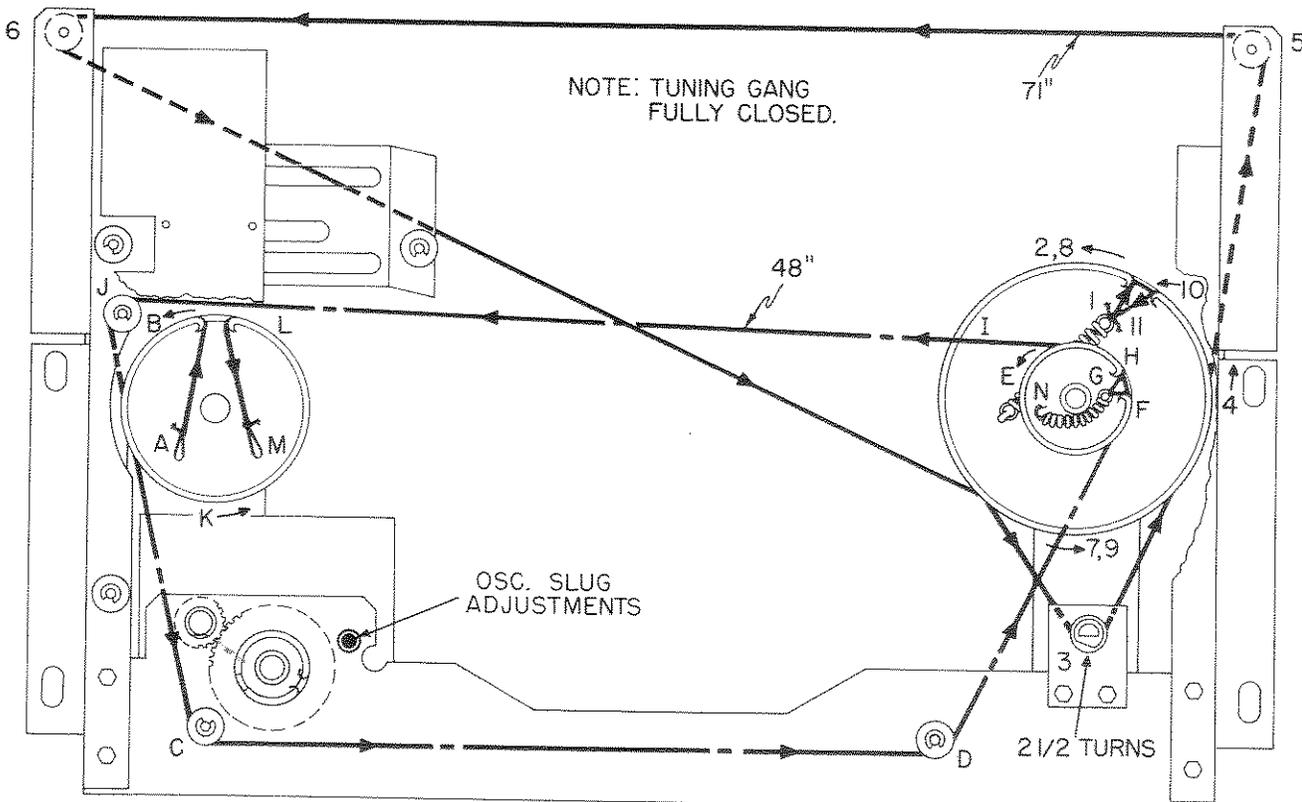

Fig. 1. Dial Pointer and Tuning Gang Stringing Diagram
- To gain access to oscillator slug adjustments, it will first be necessary to remove the baffle board assembly and dial. This is accomplished by following steps (a) thru (e) under REMOVING TUNER FROM CHASSIS on page 3. The oscillator slugs may then be adjusted by placing a screwdriver thru the opening at the front of the tuner. (See Fig. 1). An opening is also provided at the rear of the tuner for access to the antenna slug adjustments. To gain access to the RF slug adjustments, it will first be necessary to unclip the antenna coil strip of the band being aligned. The RF slugs can then be adjusted by placing a screwdriver thru the opening at the rear of the tuner.